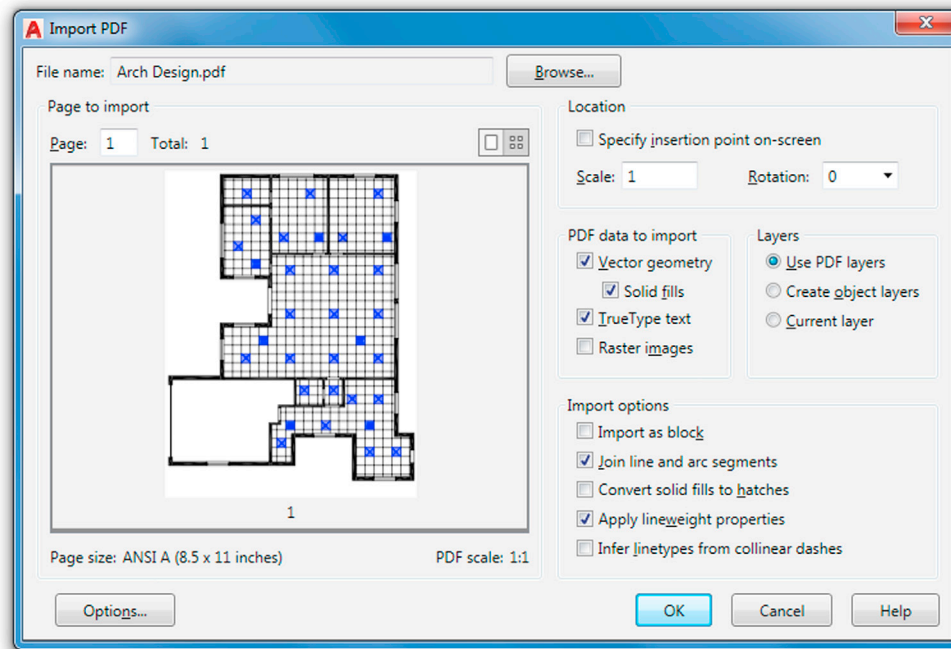

FIGURE 16.10 Import PDF.
**Step 4.** Browse around and select the PDF file you wish to import. Once you click the file name, the Import PDF dialog box (Fig. 16.10 appears).